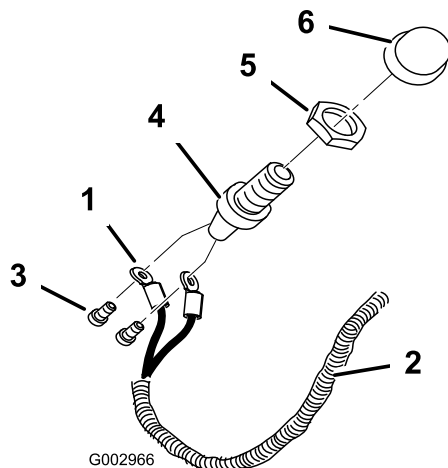

Figure 37
3. Connect the white and yellow wires at the end of the wire harness to the back of the horn switch using the two screws included (Figure 37).